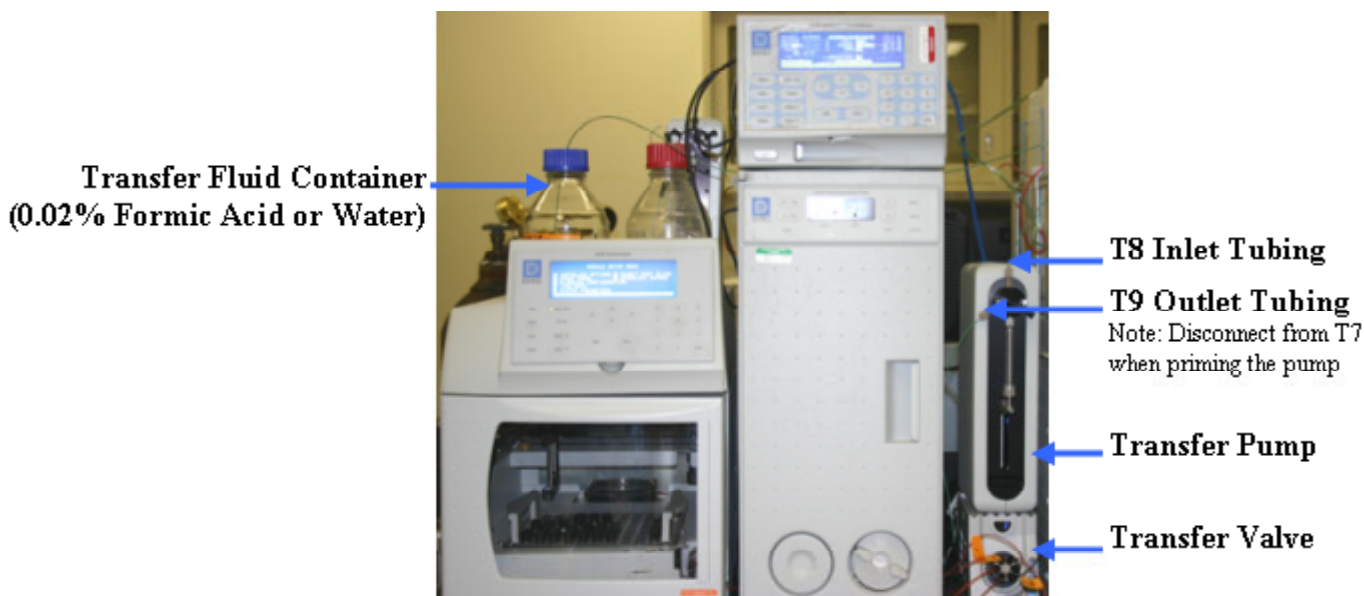

Figure 2
- G. The 500 μ L syringe should already be installed. Otherwise, remove the syringe screw, screw the syringe into the syringe port. Remember to insert the Teflon washer first (Figure 1-2, Kloehn V6 Manual). Insert the plunger and fasten the syringe screw through the plunger button. Place additional Teflon washers into ports A and C and connect T8 and T9 (Figure 2). Fill the transfer fluid container (0.02% formic acid or water) and insert T8.